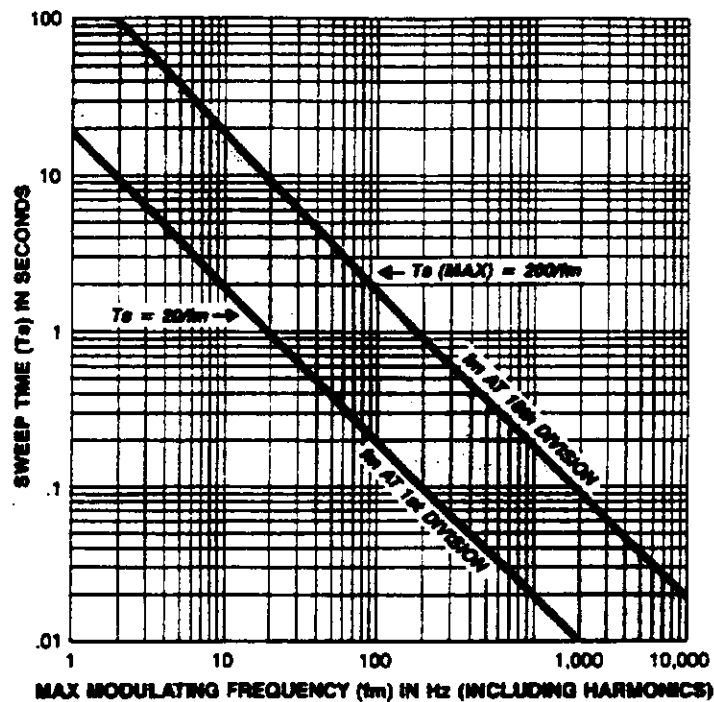

Figure 2-18
- See Figure 2-18, which shows maximum modulation frequency ( $f_m$ ) in Hz versus sweep time ( $T_s$ ) in seconds. Set the sweep time less than  $T_s(\text{max})$  for that maximum modulation frequency ( $f_m$ ) including the harmonics of the signal. The upper curve relates the sweep time to the maximum modulation frequency that can be observed (that is, the modulation frequency represented by the right edge of the graticule). The lower curve represents the modulation frequency one division from the left side of the graticule.